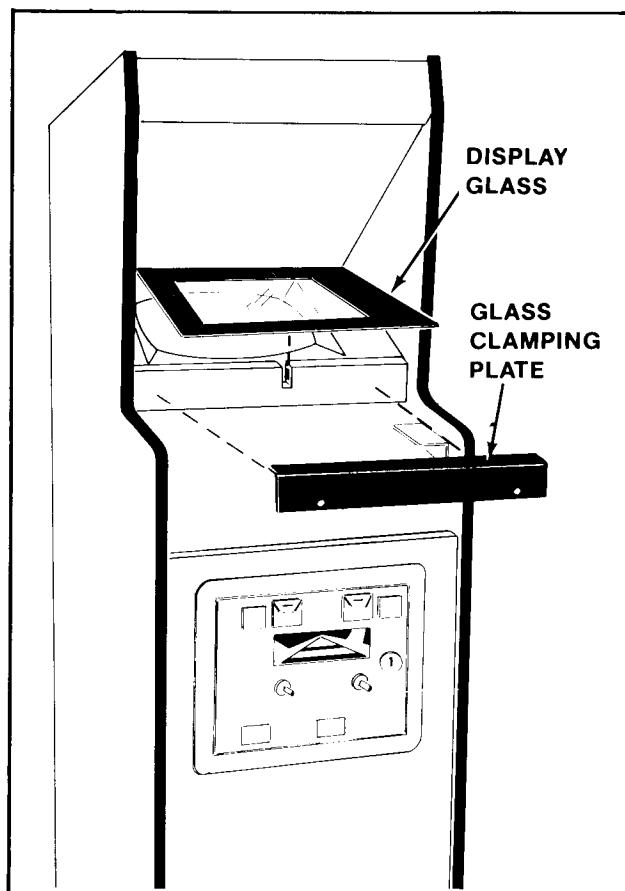

Figure 4-6 Removal of Main Display Glass & T.V.
2. MINI MODEL: See Figure 4-6.